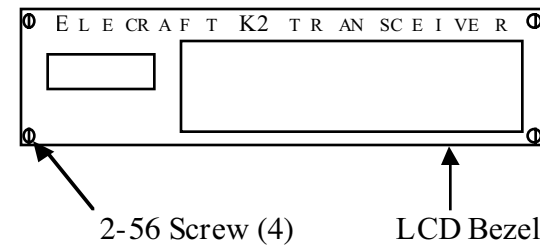

Figure 5-15
- Position the clear plastic LCD bezel over the LCD and bargraph holes as shown in Figure 5-15. The bezel goes on the *outside* of the panel.
- Secure the bezel with four 2-56 screws (stainless steel) as shown in Figure 5-15. **Tighten the 2-56 screws only the amount needed to hold the bezel to the front panel. Overtightening may crack the bezel or strip the threaded holes in the panel.**